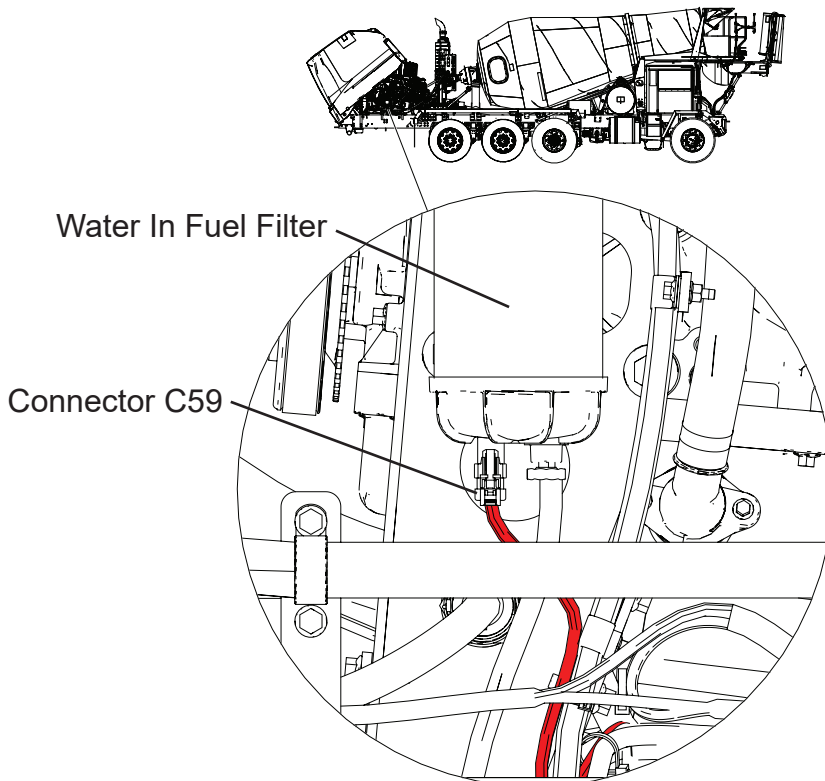

Figure 1
3. Disconnect connector C59 from bottom of water in fuel filter, see Figure 1.